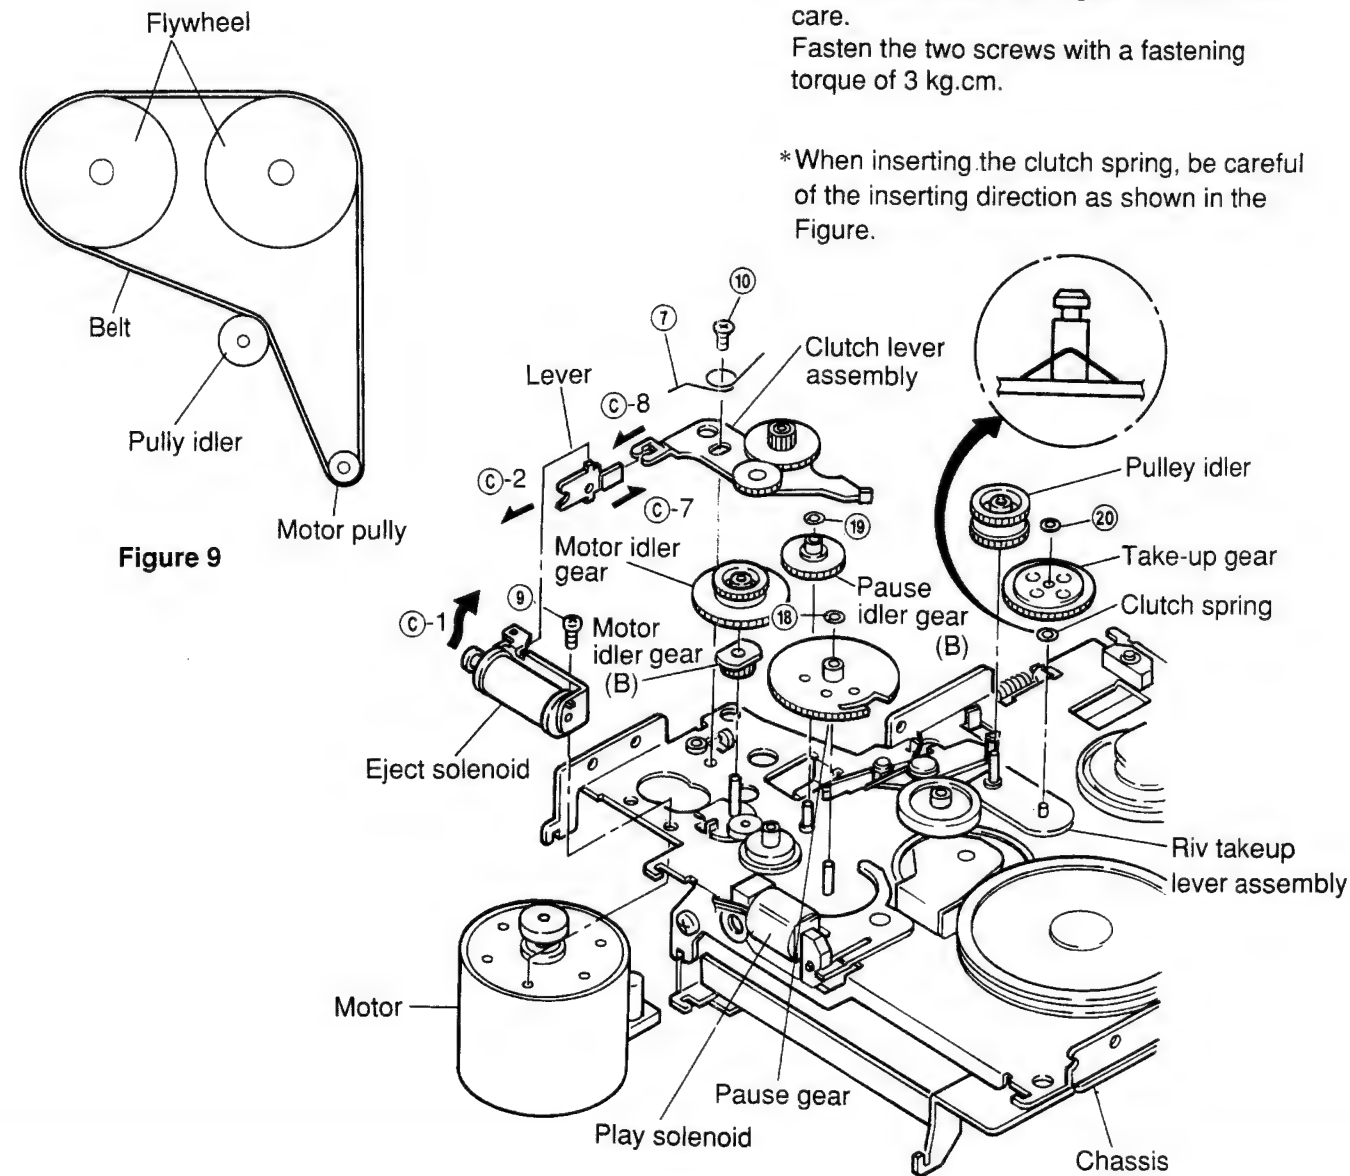
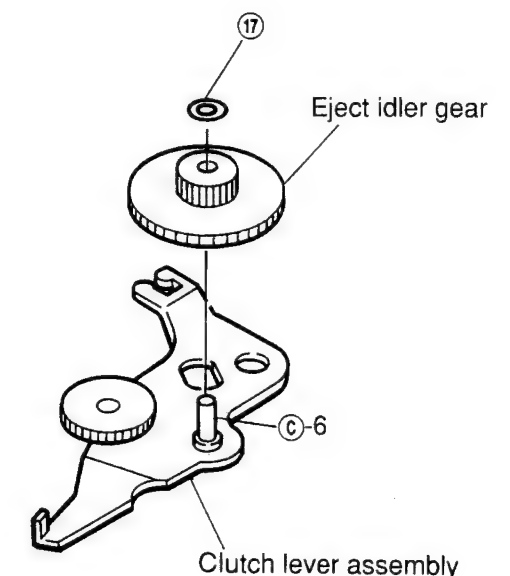

Figure 10
Figure 15
- (1) After removing the belt, remove spring ⑦ as shown in Figure 10.
- (3) Remove two screws ⑨ and ⑩, and remove the motor, taking care not to damage the motor idler gear. (Refer to Figure 10.)
- (4) Mount the new motor following the removal steps in the reverse order.
- (2) Remove screw ⑨ and remove the play solenoid as shown in Figure 10.
- (3) Align position ⑥-1 of the new solenoid with position ⑥-2 of the lever and fasten the screw as shown in Figure 10.
- (4) Lead the wire through the tube and solder it.
- (1) After removing the motor, remove the motor idler gear and the motor idler gear (B) and remove the clutch lever assembly as shown in Figure 10.
- (2) Remove M1.2 lock washer ⑰ and remove the eject idler gear as shown in Figure 15.
- (3) Mount the new gears and clutch lever following the removal steps in the reverse order.
Note: When mounting the gears to the lever, apply grease (FLOIL 425A) to the position ⑥ as shown in Figure 15. Align the position ⑦ with the position ⑧ and mount the clutch lever as shown in Figures 10 and 15.
- (1) Remove M1.2 lock washer ⑱ and remove the pause gear pulling it up from the stud of the chassis as shown in Figure 10.
- (2) Mount the new gear following the removal steps in the reverse order.
- (1) After removing the motor and the motor idler gear, remove M1.2 lock washer ⑲ and remove the gear by pulling it up from the stud of the chassis as shown in Figure 10.
- (2) Mount the new gear by following the removal steps in the reverse order.
- (1) After removing the belt and the pulley idler gear, remove M1.2 lock washer ⑳ by pulling it up from the stud of the riv take-up lever assembly as shown in Figure 10.
- (2) Remount the take-up gear following the removal steps in the reverse order.